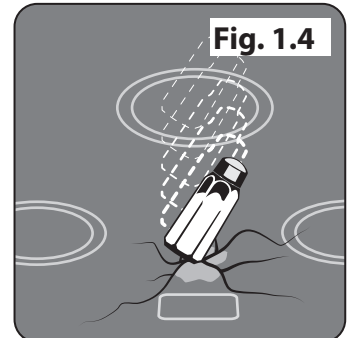

Fig. 1.4
- **DO NOT** stand or rest heavy objects on the hob. Although the ceramic surface is very strong, a sharp blow or sharp falling object (e.g. a salt cellar) might cause the surface to crack or break (**Fig. 1.4**).